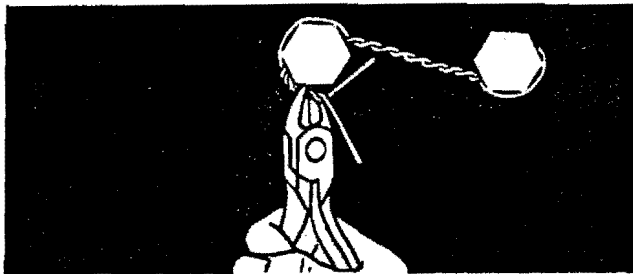

Figure 7-10. Cutting Excess Wire
i. Cut off the excess wire at the ends with diagonal cutters, leaving at least three full twists and avoiding sharp or projecting ends [Figure 7-10].